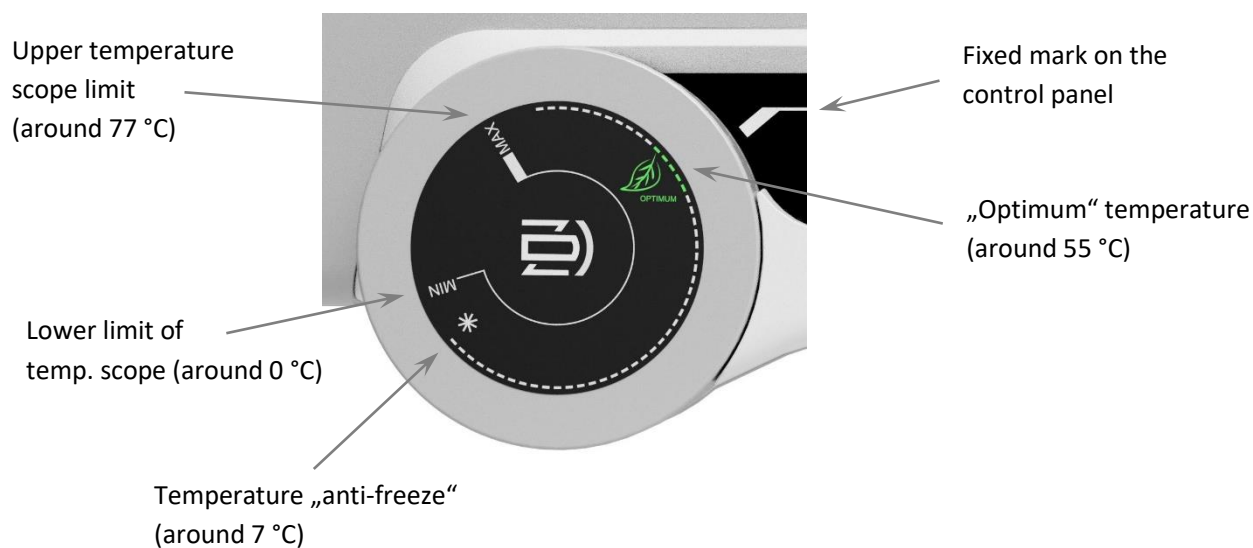

Figure 9
**Thermostat (Figure 9) and no other part of the control panel is not a bearing part which can be used for any handling with the heater.**
Water temperature is set by turning the thermostat knob. The desired symbol is adjusted against the fixed point on the control panel (Figure 9).